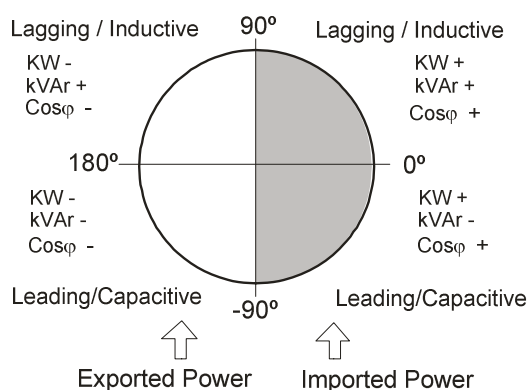

Fig. 3.1.- Signs in 4-quadrant measurements
- 4-quadrant control (see Fig.3.1), with indication about the stages connected, indication of the  $\cos \phi$ , type of reactive power (inductive  $\sim$  or capacitive  $\dashv$ ), and display of energy import or export (EXPORT icon).